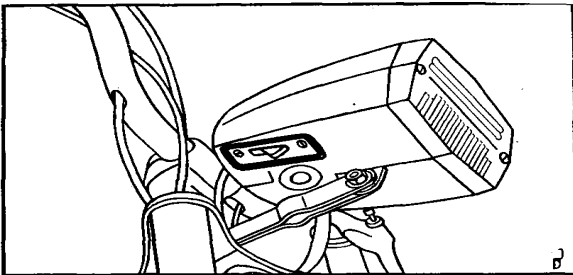

Fig. 3. Switch of lights
- Dip switch (fig. 3). The buzzer and the front and rear lights may be in operation during the engine function only.